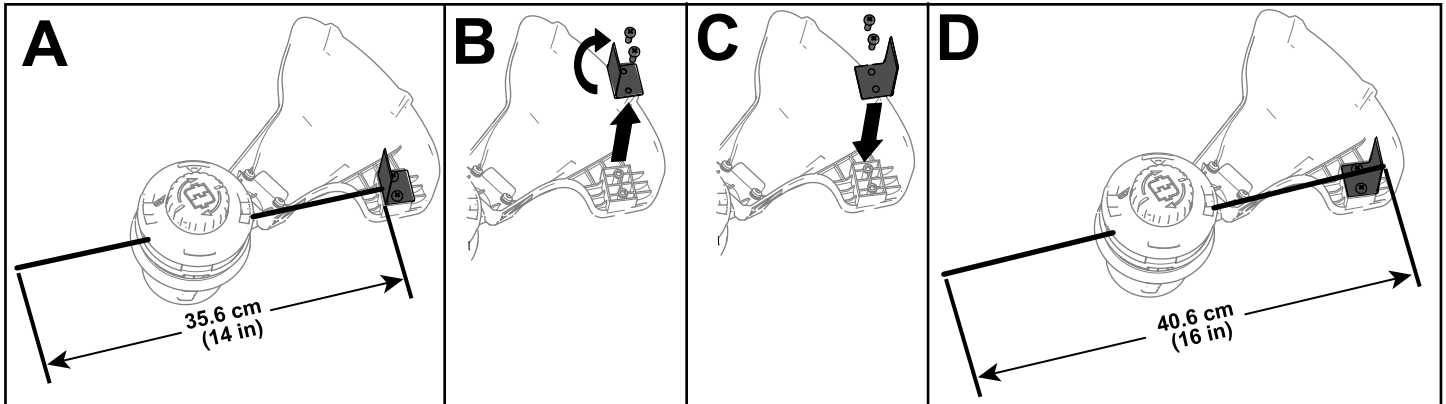

Figure 12
The trimmer comes from the factory with a cutting swath of 36.6 cm (14 inches) as shown in A of Figure 12. Refer to the following instructions to adjust the swath to 40.6 cm (16 inches) as shown in D of Figure 12.
1. Remove the swath blade from the bottom of the guard by removing the 2 screws holding it in place (B of Figure 12) and rotate the swath blade 180°.
2. Once the swath blade is rotated, install it onto the guard using the 2 screws previously removed (C of Figure 12).